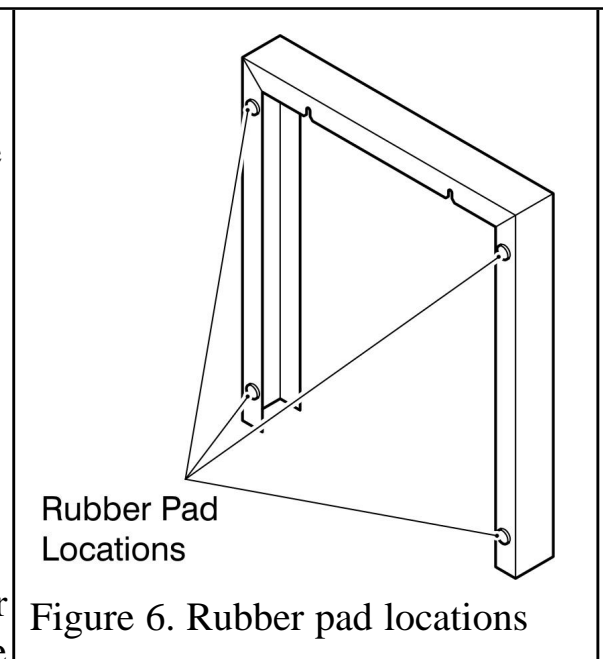

Figure 6. Rubber pad locations
1. Fit the four self adhesive rubber pads to the rear of the spacer frame. They should be located on the rear of the vertical legs as in figure 6.